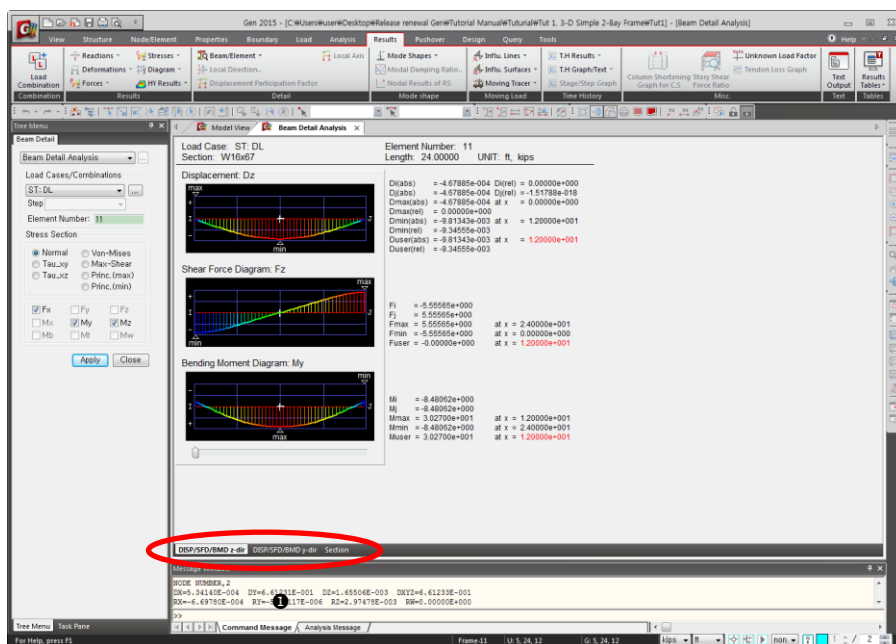

Figure 1.39 Beam Detail Analysis (DISP/SFD/BMD z-dir)
6. Verify the analysis results by selecting consecutively the **DISP/SFD/BMD z-dir**, **DISP/SFD/BMD y-dir** and **Section** tabs shown in Fig.1.39–❶.
❷ If the entire screen does not appear in the Model Window, use the right scroll bar.
❸ The windows currently opened in the Window of the Main Menu can be automatically assigned in diverse
❹ The z-dir tab displays Dz, Fz and My.